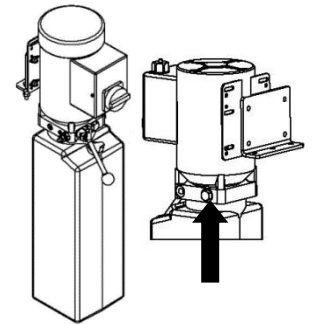

FIGURE 25 : SAFETY SEAL
2. SAFETY SEAL ON PRESSURE REGULATOR CAP. SEE **FIGURE 25**.